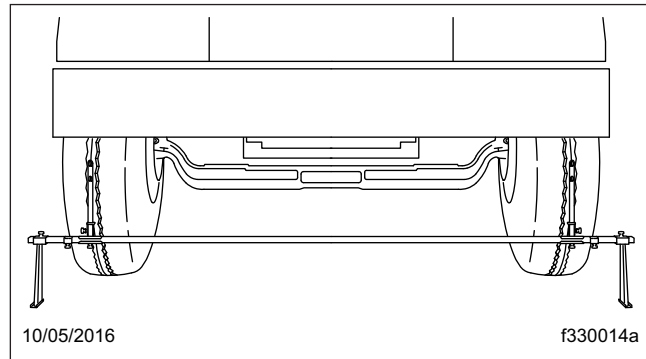
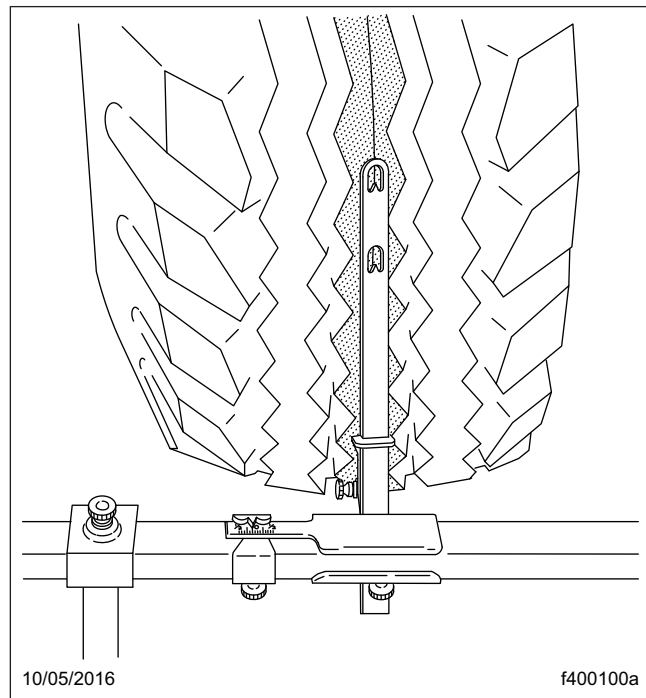

Fig. 7, Trammel Bar Positioning
Fig. 8, Setting Trammel Bar Pointers
7. Place the trammel bar at the front of the tires and adjust the scale end so that the pointers line up with the scribe lines. See Fig. 7 and Fig. 8.